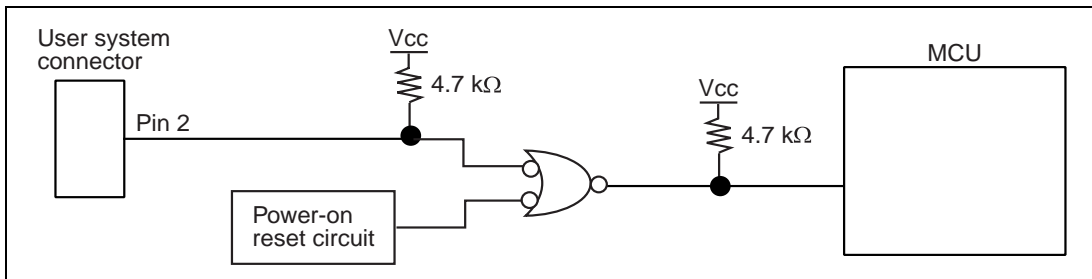

Figure 1.8 Connection of Pin ETRST#
- Pin ETRST# must be connected as shown in figure 1.8.